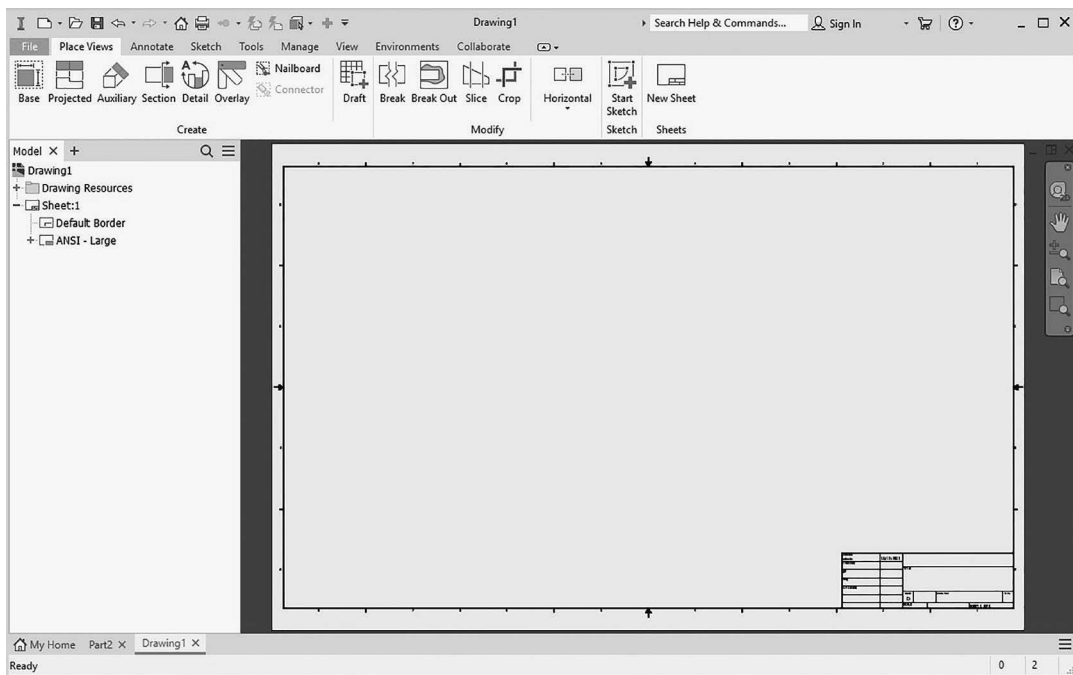

Figure 11
- Your screen should look similar to Figure 11.